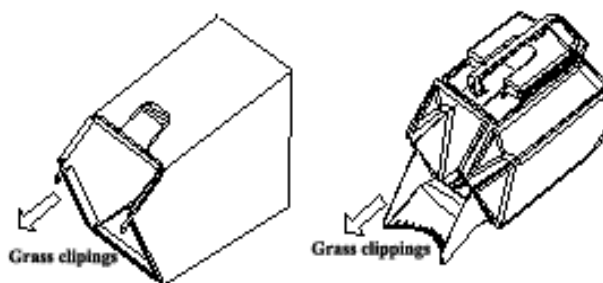

Fig. 15
EMPTYING YOUR GRASS BAG/CATCHER (See Fig. 15)
- Grip the handle of the grass bag/catcher and shake the clippings out. Refer to Fig. 15.